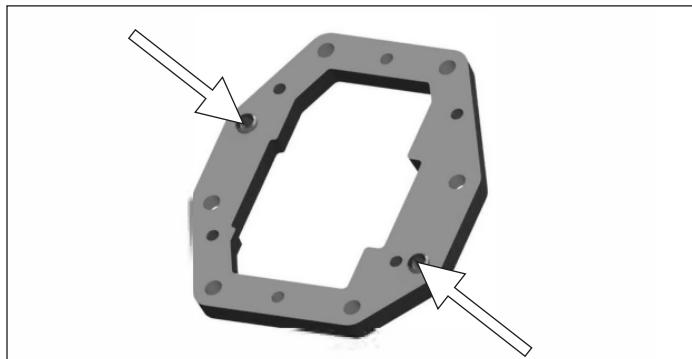

Figure 36
- (4) M10 x 35 socket head cap screws, torque to 50-55 lb-ft [67-75 N-m] (**Fig. 36**).